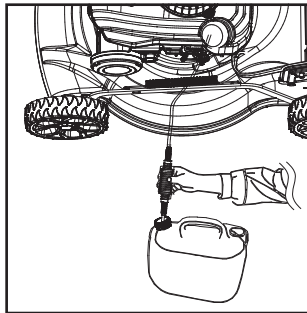

Fig. 22
1. The fuel must be drained out into a container after each use. Place the mower on stable ground and use the supplied syphon (31) to drain out all the petrol from fuel tank (Fig. 22).